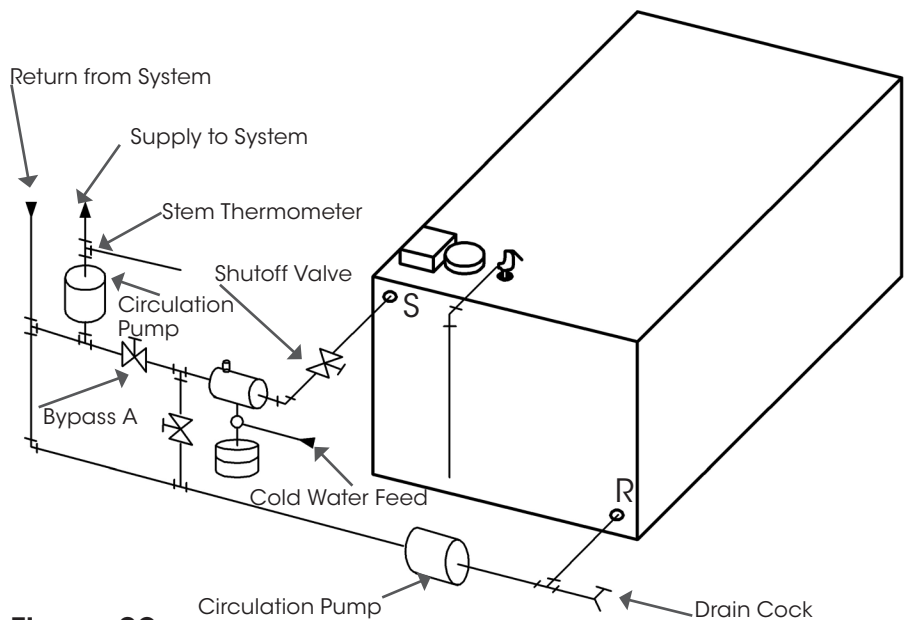

Figure 20
3. Radiant panel or other low temperature system: The temperature of the system water coming back to the return port of the boiler must not be permitted to drop below about 135 Degree F for an extended period of time. Return water temperatures of 130 Degree F or lower will cause condensation on the exterior surface of the heat exchanger and corrosion and eventual heat exchanger failure will result. Radiant floor and ceiling panel heating systems typically operate with maximum supply water temperatures of 140 Degree F or less. A standard piping arrangement would, under these circumstances, permit return water temperatures of 120 Degree F and lower. Accordingly, such systems must be piped such that the return water temperature will be high enough at all times to prevent condensation. See Figure 20.
NOTE: Bypass A shown in Figure 20, below, should not exceed 12 inches in length. If it is not practical to maintain a 12 inch length or less then increase the pipe size of the bypass by one size.